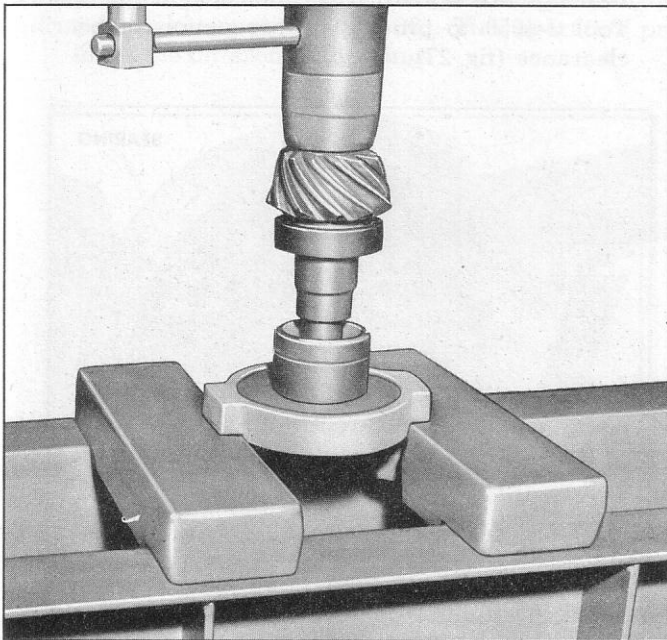

Fig. 23—Installing Front Pinion Bearing
3. Press front (double ball) bearing on shaft (fig. 23).